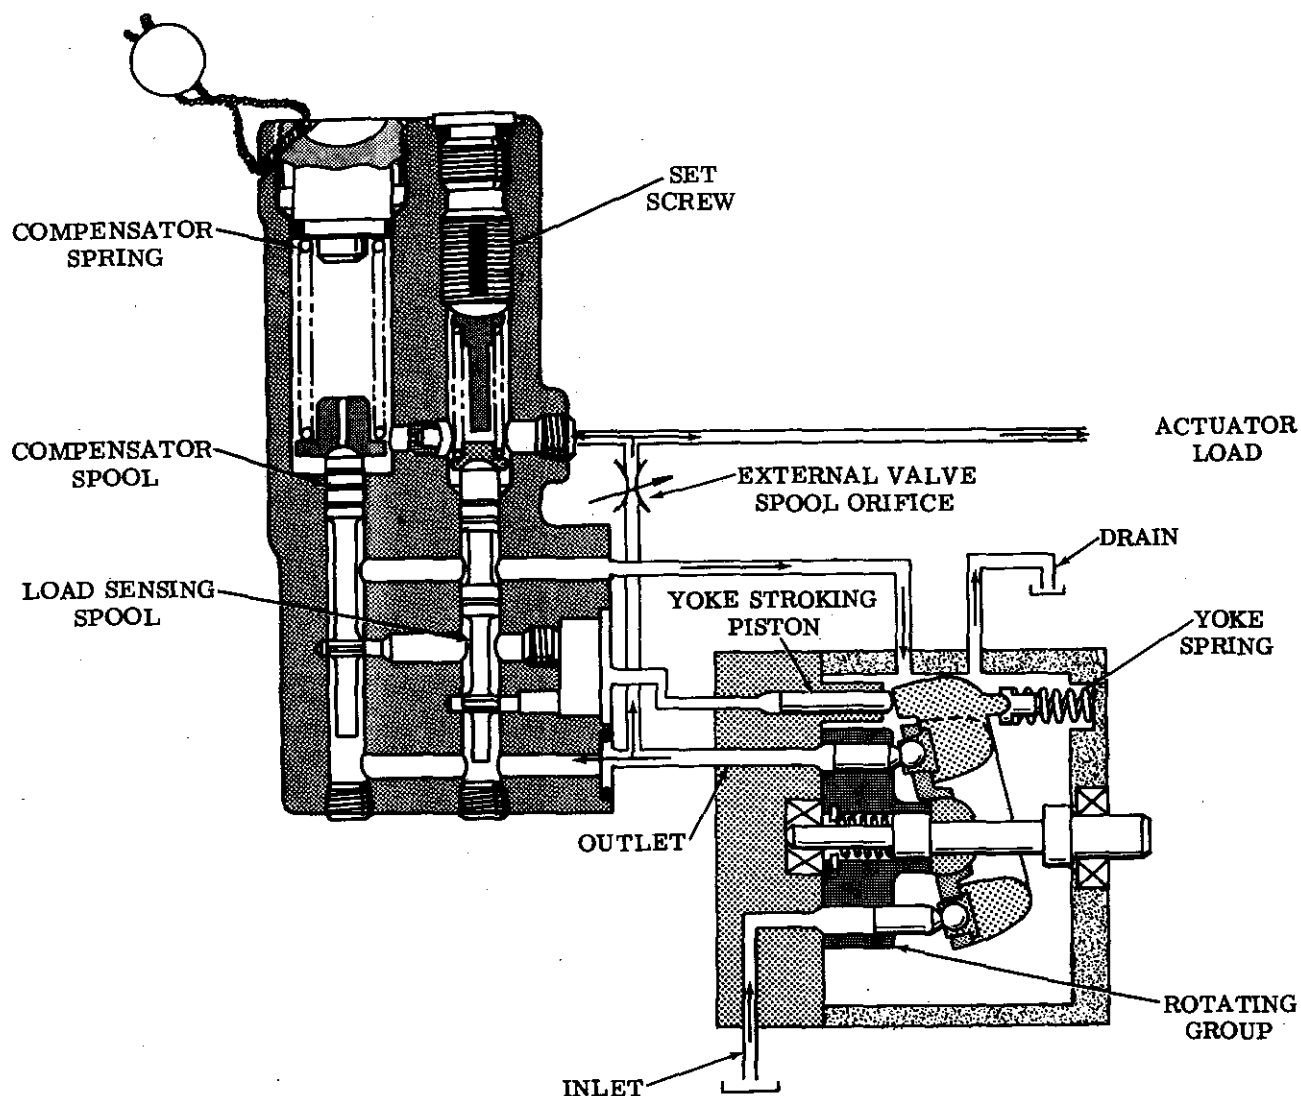

Figure 5. Load Sensing Pressure Limiting Compensator (CVP or CVPC)
4. Compensator (CVP), (Load Sensing Pressure Limiting Type): The CVP control is a combination of the standard flat cut-off compensator (C) and the load sensing compensator (CV). The load sensing compensator controls flow to the load across an external valve orifice. If pressure build-up exceeds the flat cut-off compensator setting, the flat cut-off compensator overrides the load sensing compensator and lowers the flow to prevent excessive pressure build-up at the pump.
5. Compensator (CVPC), (Load Sensing, Pressure Limiting Type): This compensator is the same as the "CVP" compensator except the load sensing spring is heavier. The heavier spring provides a slightly higher pressure differential (160 ΔP vs. 350 ΔP) across the external valve orifice. See Figure 5.
The load sensing portion functions at pressures below the flat cut-off compensator setting and provides a constant flow characteristic. If pressure exceeds the flat cut-off compensator setting, the yoke will stroke to zero flow at maximum pressure lowering the horsepower requirements for holding circuits and protecting the pump. Refer to Figure 5 throughout the following circuit explanation.
Standby defined: When the external valve spool is shifted to zero flow, the circuit is placed in standby (See Figure 5.).
The small fixed orifice located in the compensator body provides a decompression feature for the load circuit during standby operation. The decompression feature allows the pump to stroke to zero flow and minimum pressure (ΔP), if the load is blocked and the external valve spool orifice is closed. (Refer to Figure 5.)